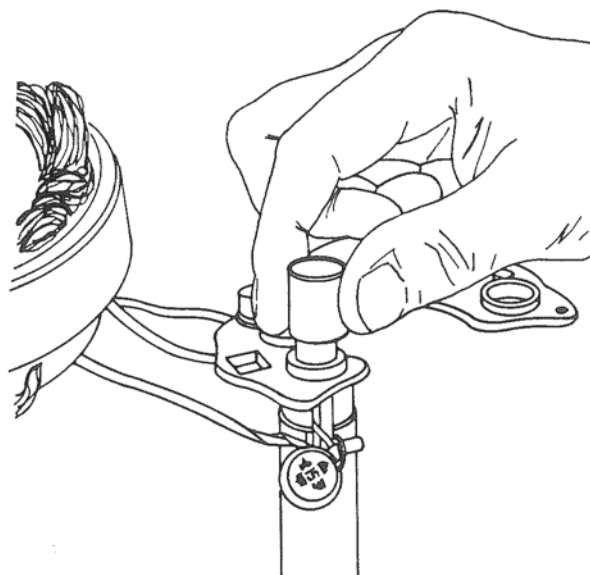

Figure 31. Diode Removal.
If it is necessary to separate stator and diodes from the end head, remove nuts, lockwashers, flat washers, and insulating washers from output and auxiliary terminal studs. Use special tools shown in Figure 31, to carefully press three (3) negative diodes out of heat sink. End head can now be separated from stator and diode assembly. Figure 31.